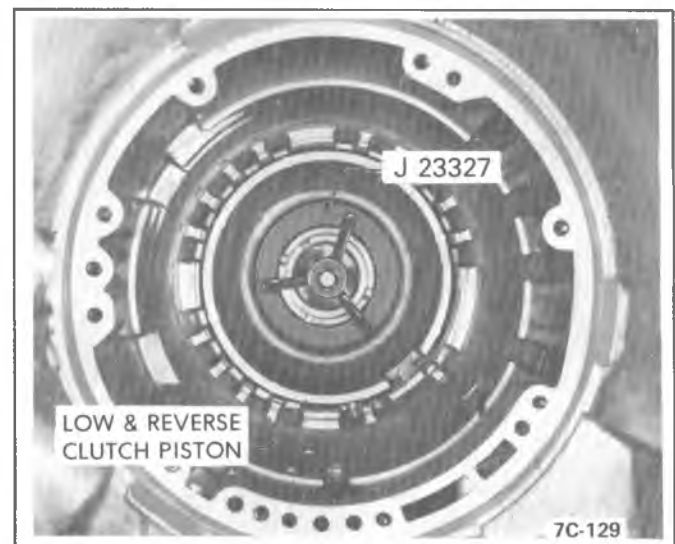

Figure 350C-60 Remove Low and Reverse Piston Snap Ring
2. Remove low and reverse clutch piston assembly. Aid removal with the use of compressed air in passage shown. See Figure 350C-61.